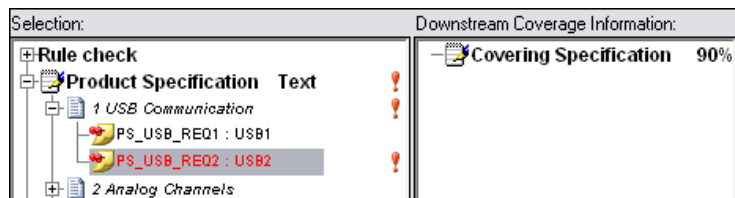

Figure 3-3. PS_USB_REQ2 Selected in Coverage Analysis View
6. Select the **PS_USB_REQ2** requirement, as shown in Figure 3-3.